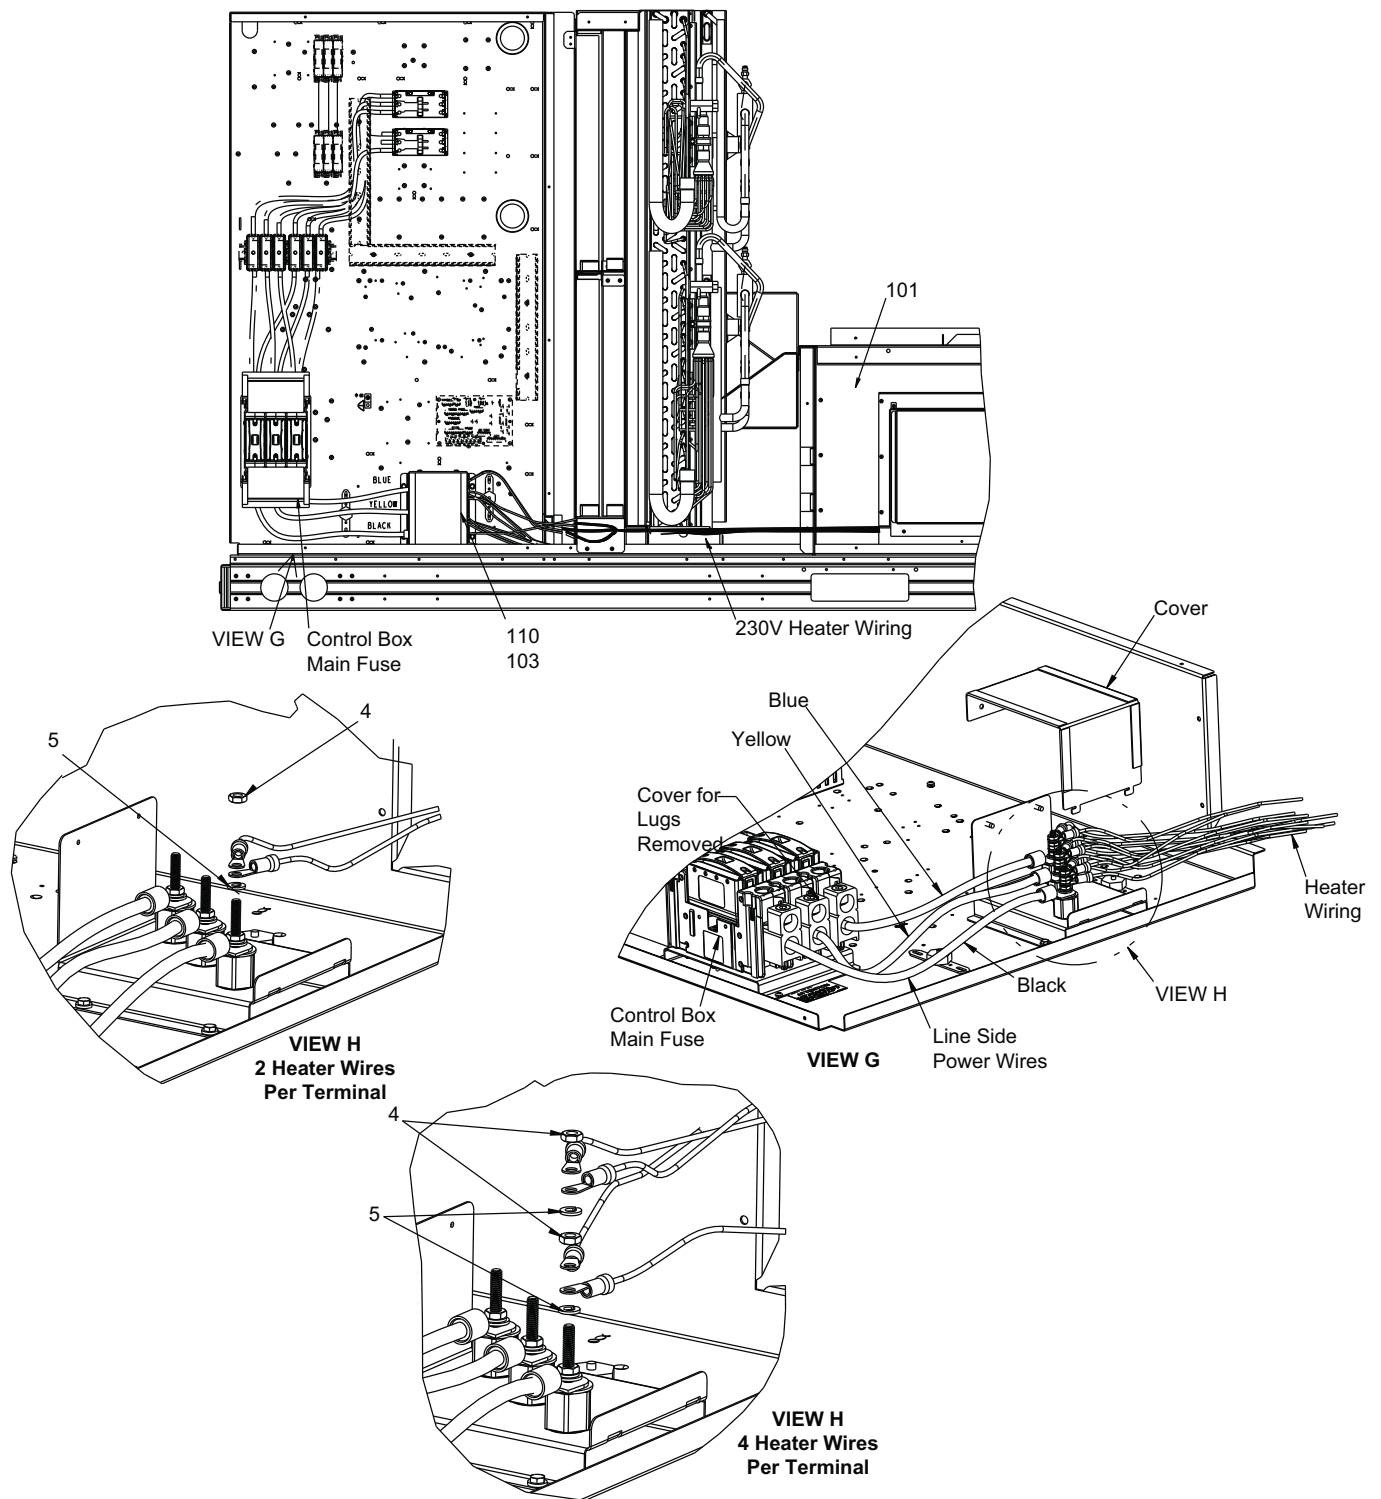

Fig. 52 — 230V Single Point Power Assembly Location (High SCCR)
1. Install terminal block assembly in location shown in Fig. 52.
For 4 wire/leg assembly: add lock washers (Item 5), turn bottom two wires so barrel of terminal is down as shown in Fig. 52. Add nut (Item 4) and tighten to 9-10 Nm (79 in.-lb). Add second lock washer (Item 5), the top two wires shall be installed with barrels “up.” Add second nut (Item 4) and tighten to 9-10 Nm (79-88 in.-lb).